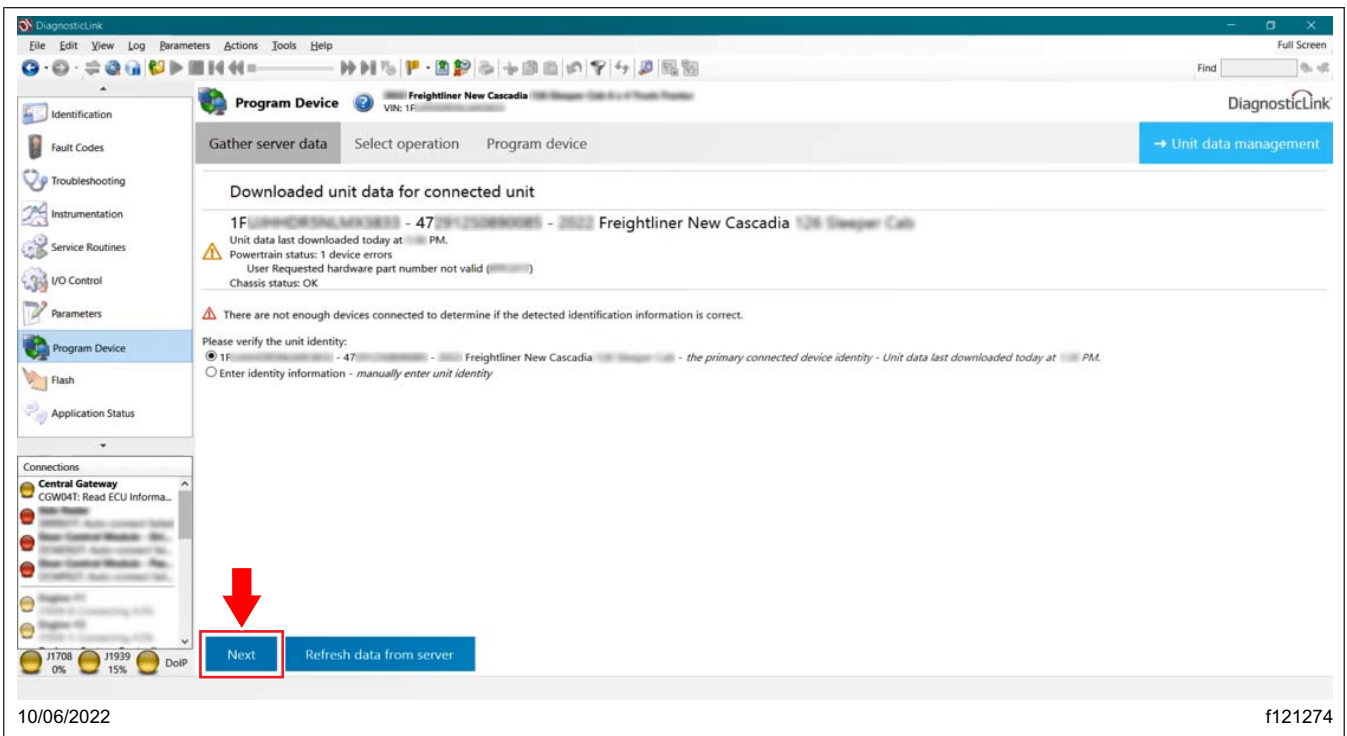

Fig. 14, Selecting Next
10. Once the latest data is retrieved, select 'Next.' See Fig. 14.